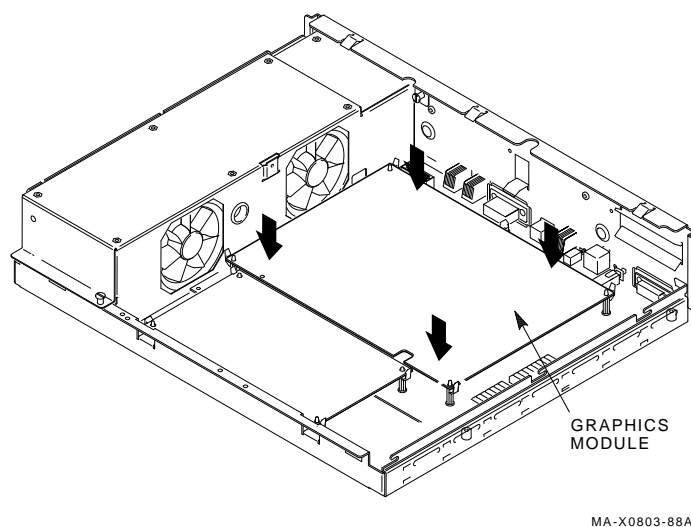

Figure 6-5 Graphics Module Installation
1. Install the graphics module (Figure 6-5).